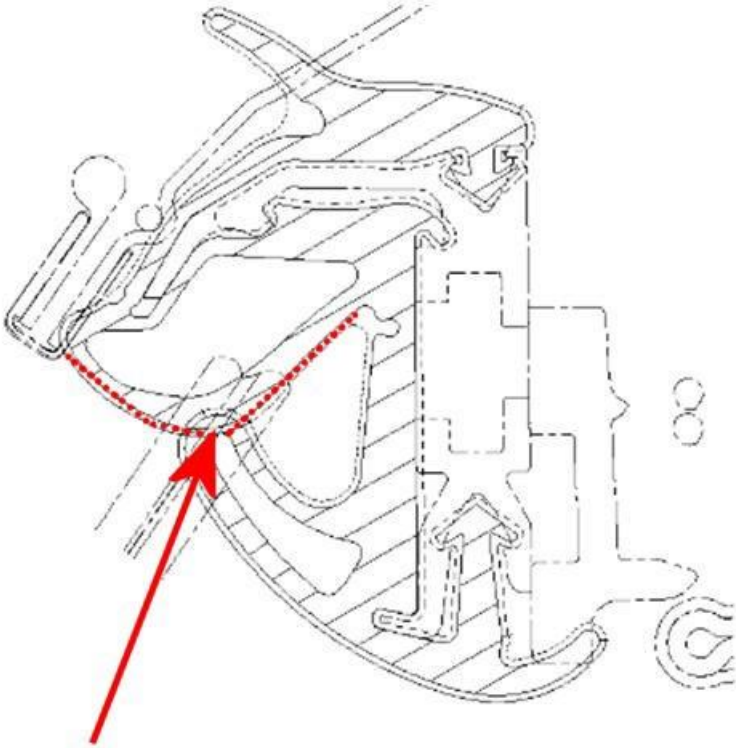

Figure 6
2) Referring to Figures 6 - For test purposes only - Apply TESA 4651 tape (or similar specification) in the location shown TIP: Ensure the seal is cleaned before tape application